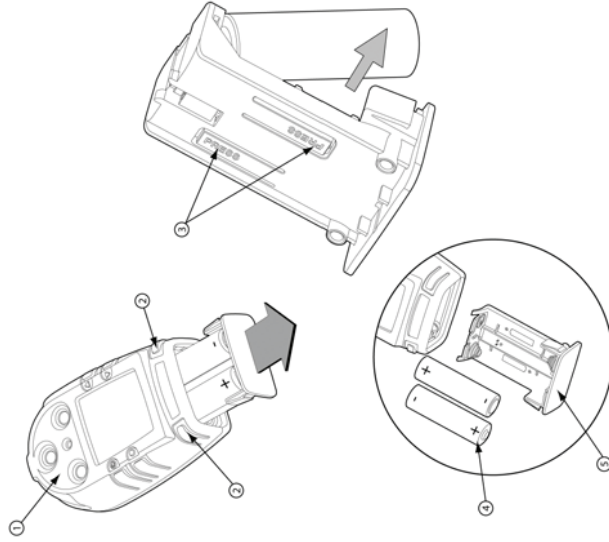

Figure 6. Replacing the Batteries
2. Remove the battery tray (Figure 6) from the detector.